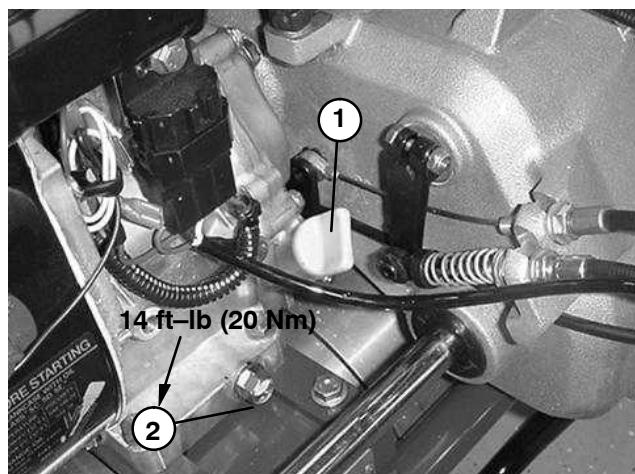

Figure 5
2. Position mower so the engine is level. Clean around the oil level gauge (Fig. 5).
3. Place a drain pan at the rear of machine under the drain plug (Fig. 5). Remove drain plug and drain plug gasket.